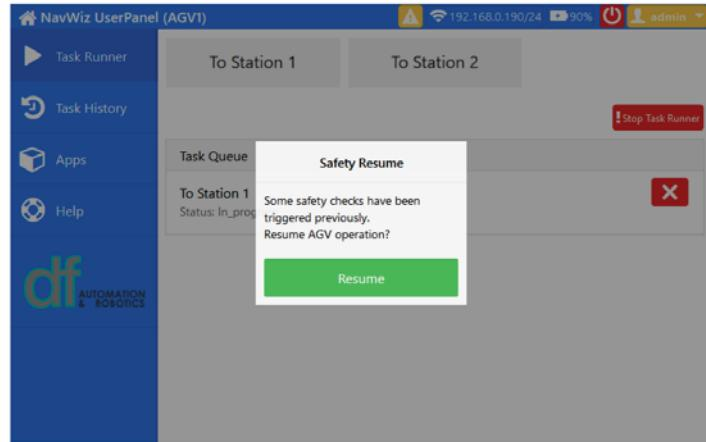

Fig. 3.27: Safety Resume Message
- ii. Clear the obstacle at the Bumper sensor. A **Safety Resume** message as in Fig. 3.27 will be shown